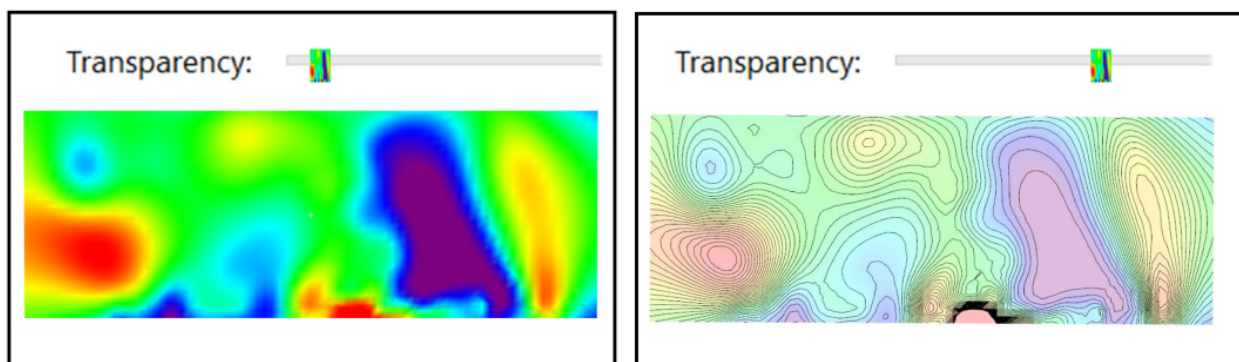

Figure 14.16: Different level of filling transparency
- **Transparency:** manages the transparency level of the filling (Figure 14.16).